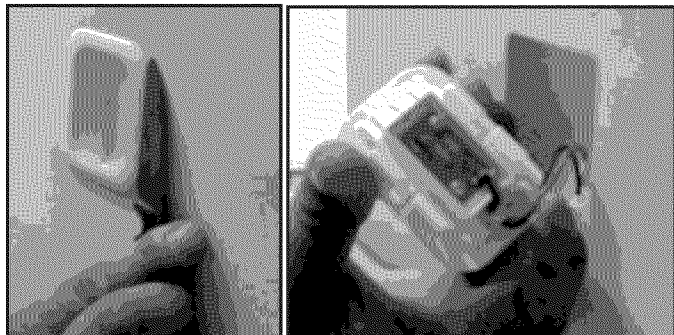

FIGURE 2
3. Remove one of the LED modules that were not lighting from the cabinet, and determine if it has a connector or if it is 'hard-wired' into the cabinet. See *Figure 2*.